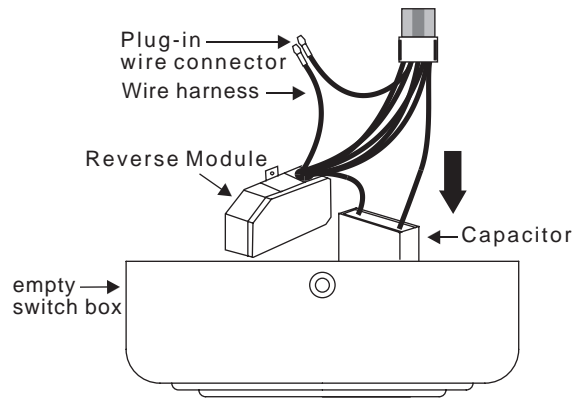

Figure 18
2. Install the wire harness into the empty switch box by placing the reverse module and capacitor inside the empty switch box with self adhesive tape. (Fig. 18)